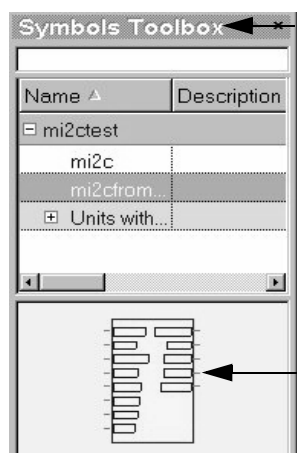

Figure 5. Symbols Toolbox of the Block Editor.
- In Figure 5, pick the entity of the Wrapper file. Click on the yellow rectangular component as pointed to by the arrow and drag it to the Block Editor file. A generic rectangular block is instantly generated with the correct port names.